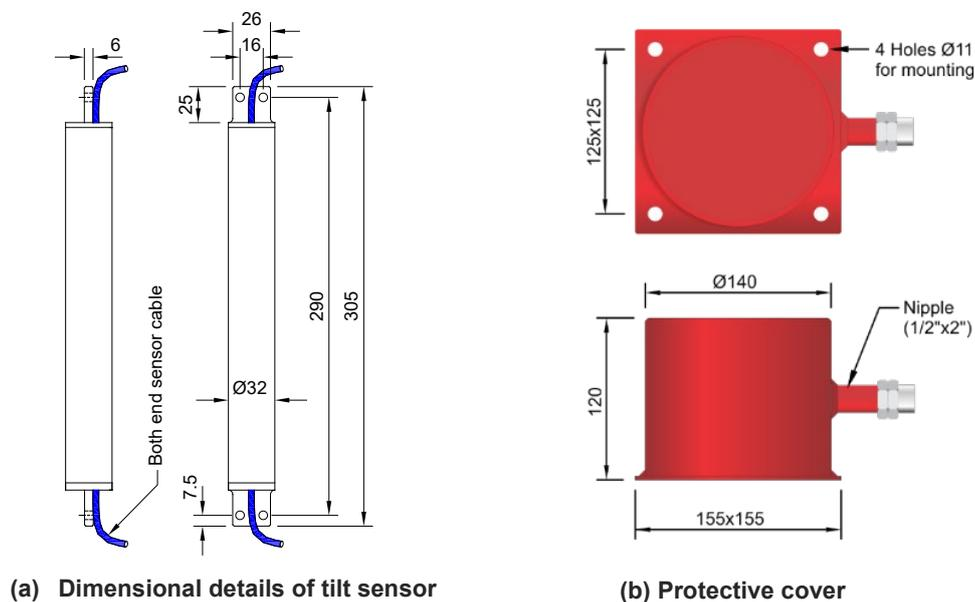

Figure 2-2 Tilt sensor and cover details
Figure 2-1 shows a typical in-place inclinometer string assembly, figure 2-2(a) shows tilt sensor details and figure 2-2(b) shows protective cover details.
- Place the protective cover (figure 2-2(b)) over the concrete platform and mark location for the Hilti HLC-M10x80 fasteners provided. Remove the cover and install the four mounting fasteners on the marked locations (for mounting of the protective cover later).